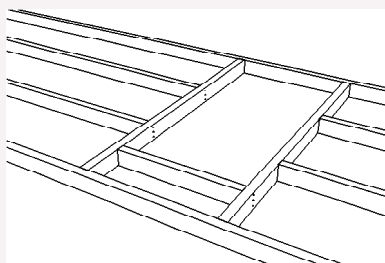

fig 4
2. Using timber of a compatible size to the existing ceiling framing, ie 100 x 50 or 150 x 50 H1 treated, machine gauged radiata pine, frame up the opening. It may be necessary to cut through some existing ceiling joists to achieve the required size. Ensure these are properly supported during and after cutting. Three possible arrangements are shown in figures 4, 5 and 6.